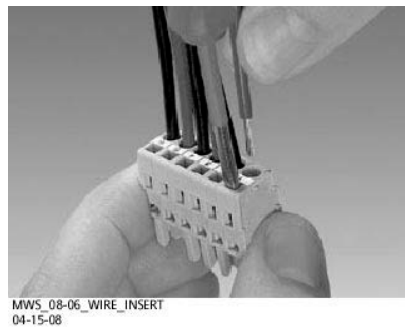

Figure 1: Inserting Wire in Cage Clamp Type Connector
Strip insulation from the end of the wire as indicated in Figure 1 below.
- Insert blade of appropriate sized flat bladed screwdriver in rectangular slot in connector next to the wire receptor (see Figure 1).